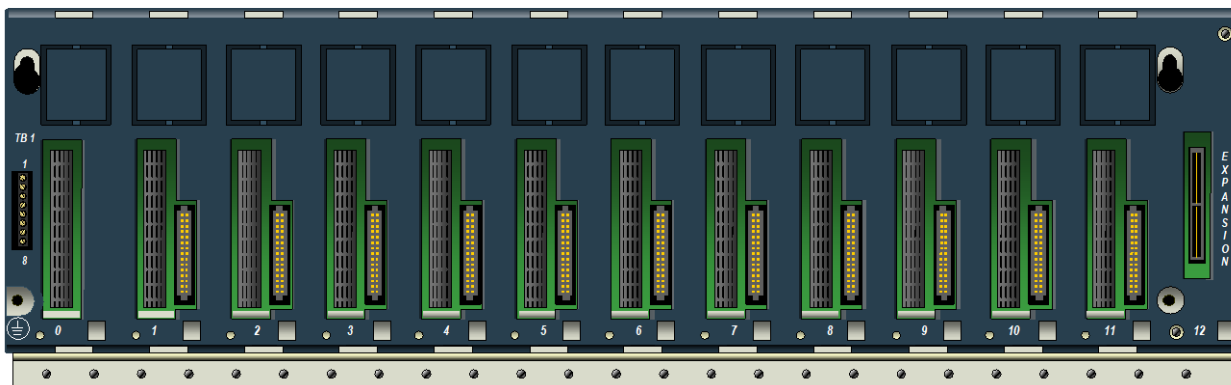

Figure 57: 12-Slot RX3i Universal Backplane IC695CHS012
- the 12-slot IC695CHS012, displayed in Figure 57 below, and